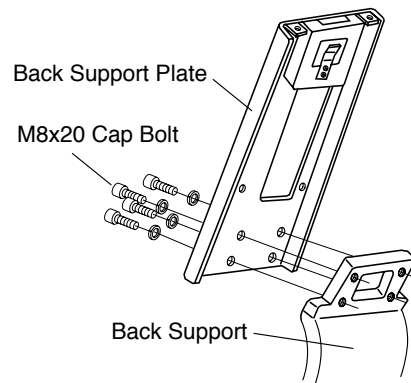

Fig.3-7-1 Fixing Back Support Plate
(2) Remove the back support plate from the backrest cushion by removing four pan head screws (M6-15).
(3) Fix the back support plate to the back support with four socket head cap bolt (M8-20) and spring washers. (**Fig.3-7-1**)